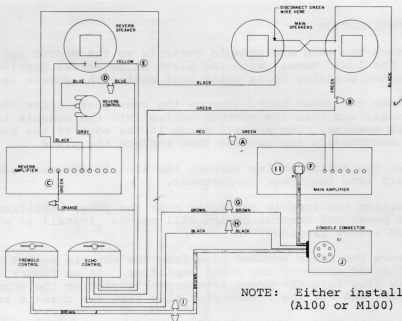

Figure 1. A100 Connections
5. Cut the green lead which connects the amplifier output to the main speakers. (A & B on figures 1 & 2) Remove 3/8" of the insulation from each of the cut ends. Connect the amplifier end of this lead to the red lead from the echo control with a wire nut. Connect the speaker end of the lead to the green lead from the echo control. (B on figures 1 & 2)
6. Disconnect the reverberation input lead (green) from the main speakers. Strip and connect it to the orange lead from the echo control with the wire nut provided. (C on figures 1 & 2)
7. Detach the "hot" lead (gray or blue) from the reverberation speaker terminal, strip it about 3/8", and connect it to the blue lead from the echo control with the wire nut provided. (D on figures 1 & 2)
8. Solder the yellow echo control lead to the "hot" reverberation speaker terminal. (E on figures 1 & 2)
9. A100: Connect the plug from the console connector into the 5-contact socket on the rear apron of the power amplifier chassis. (F on figure 1)
10. Connect the brown lead from the echo control to the short, single, brown lead* from the console connector, with the wire nut provided. (G on figures 1 & 2)
11. Connect the black lead from the echo control to the black lead from the console connector, with the wire nut provided. (H on figures 1 & 2)
12. Connect the brown double wire from the tremolo control to the short, double, brown wire from the console connector, with the wire nuts provided. (I on figures 1 & 2)
8. Connect the brown lead from the echo control to the brown lead from the console connector with the wire nut provided. (G on figures 1 & 2)
9. Connect the black lead from the echo control to the black lead from the console connector with the wire nut provided. (H on figures 1 & 2)
10. Connect the brown wire from the tremolo control to the short wires on the console connector with the wire nuts provided. (I on figures 1 & 2)